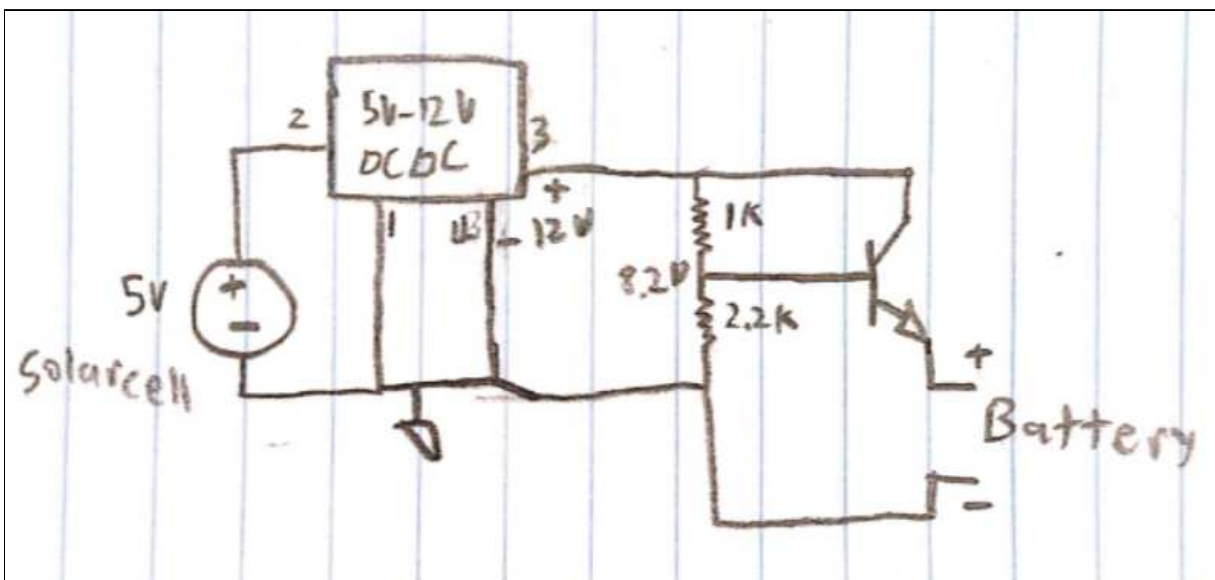

Figure 3
3. Completed electronic system, so all the components are working together properly, a schematic of the electronic system can be found in *figure 3*.